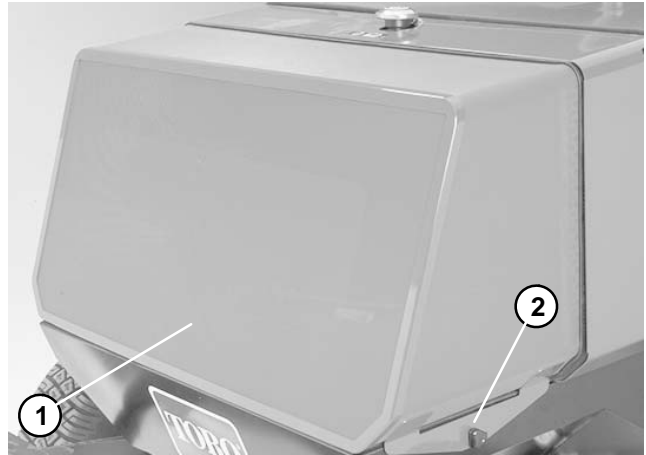

Figure 10
2. Remove knobs securing rear screen to frame . Remove rear screen (Fig. 10).